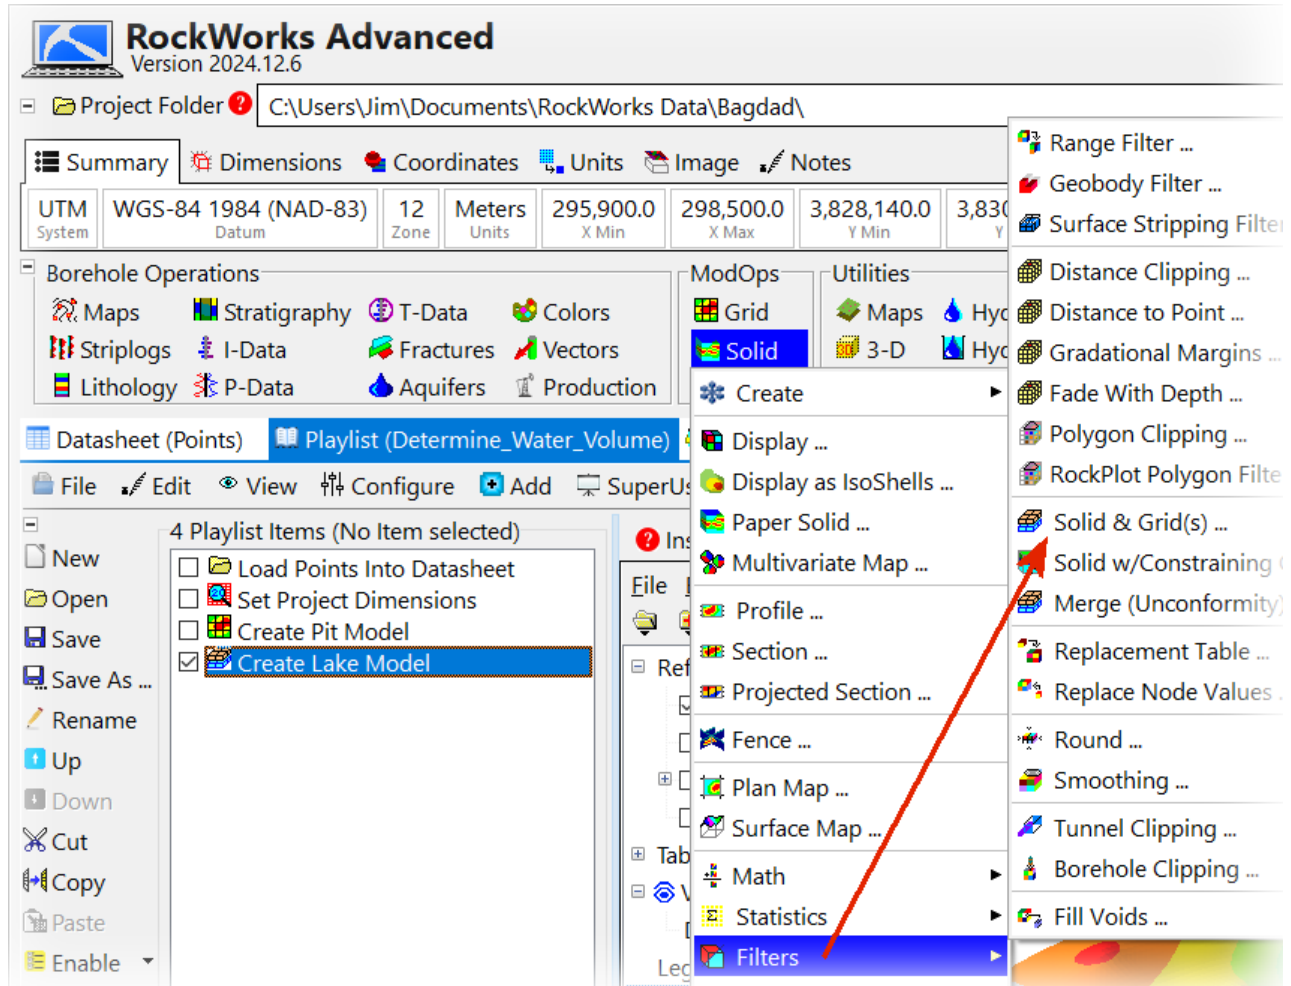

Figure 13
- In this next step, we will create a model of the water that would fill the pit up to a surface elevation of 950 meters above sea level. Select the *ModOps / Solid / Filters / Solid & Grid(s)* program (Figure 13).